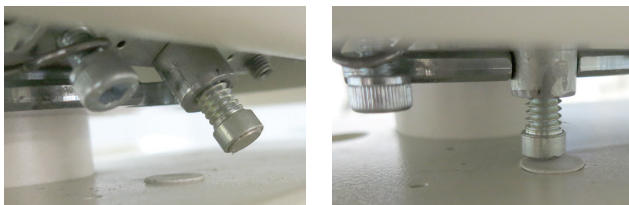

Figure 3-21
3. Observe the magnet switch for seat safety. **See Figure 3-21.**